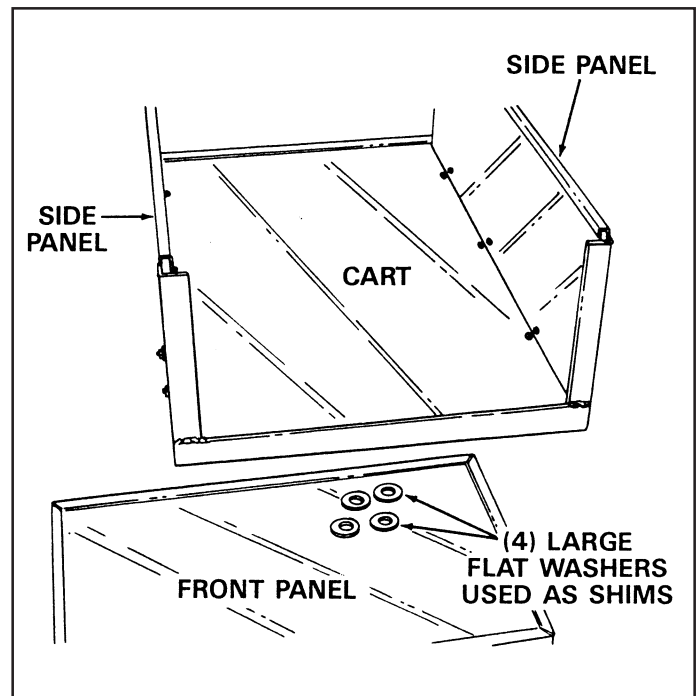

FIGURE 8
15. Lay the cart down on the floor so that the sides are up in a normal position. Remove the front panel by sliding it up, then remove the four large washers you used for shims. See figure 8.